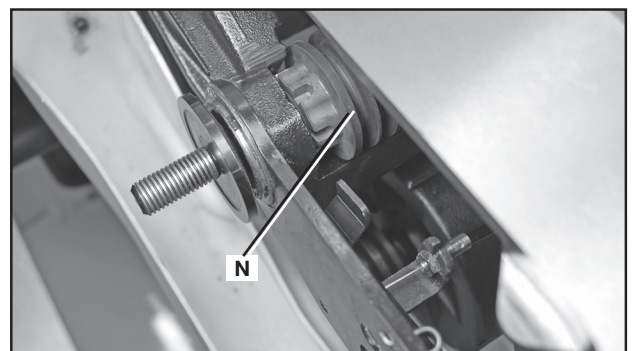

FIG. 88
6. Install the new belt, in the grooves of the arbor pulley (N) Fig. 88, and the motor pulley. (NOT SHOWN.)